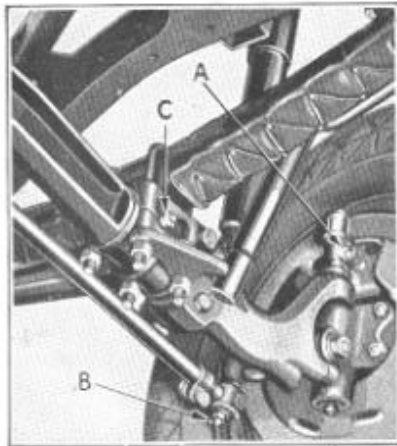

Figure 12
Spindle pivot lubrication fittings (A), Figure 12, tie rod end fittings (B) and front spring seat fittings (C) should be lubricated with viscous chassis lubricant every 1,000 miles.